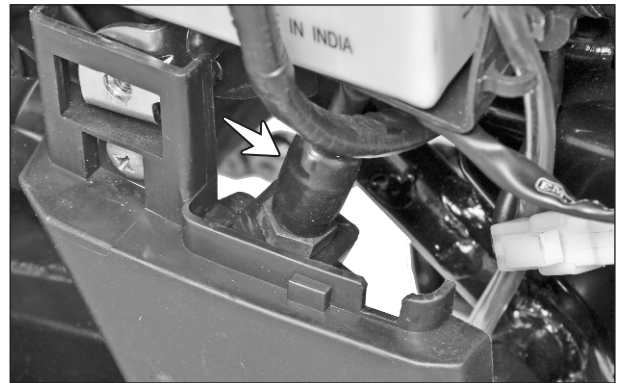

Fig. 5.31
- Switch assembly stop lamp rear is fitted on the frame below the battery assembly near the mounting of the swing arm complete and operated by the brake pedal. (Fig. 5.31)